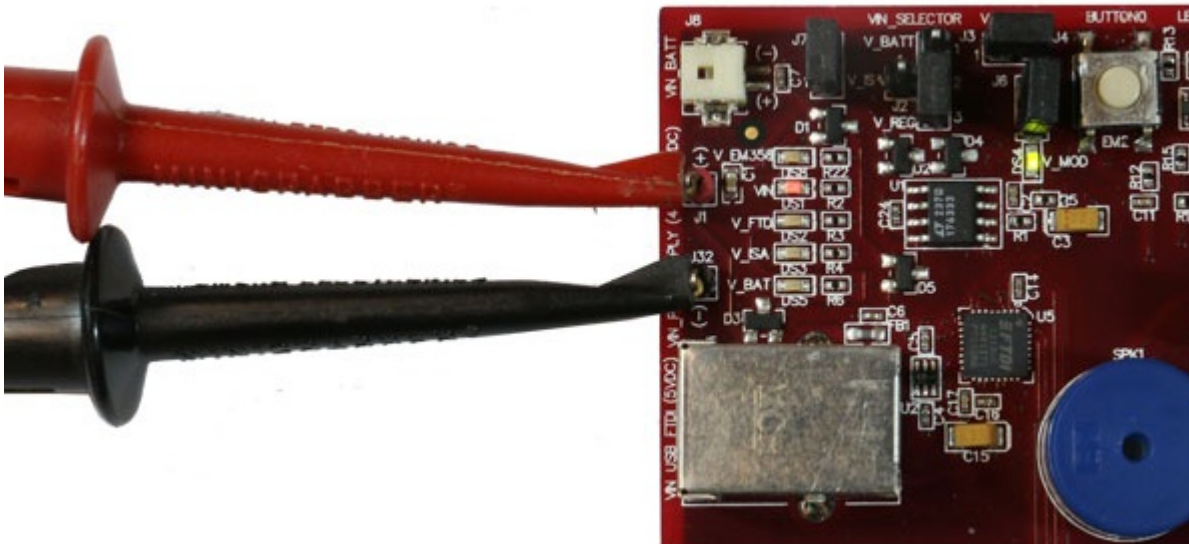

Figure 9. Breakout Board Power Supplied by DC Jumpers
- Breakout Board Power Supplied by DC Jumpers (Figure 9): The Breakout Board may also be powered by an external power source that provides 4-20 V dc. The power supply should be connected to jumpers J1 (+ supply) and J32 (ground). The power supply jumper on the Breakout Board should be in the lower vertical position, connecting V_REG to the center pin. The VIN LED (DS1) will illuminate when power is applied. When powering the Breakout Board in this way, ensure the power switch on the Debug Adapter (ISA3) is in the EXT (External) position.